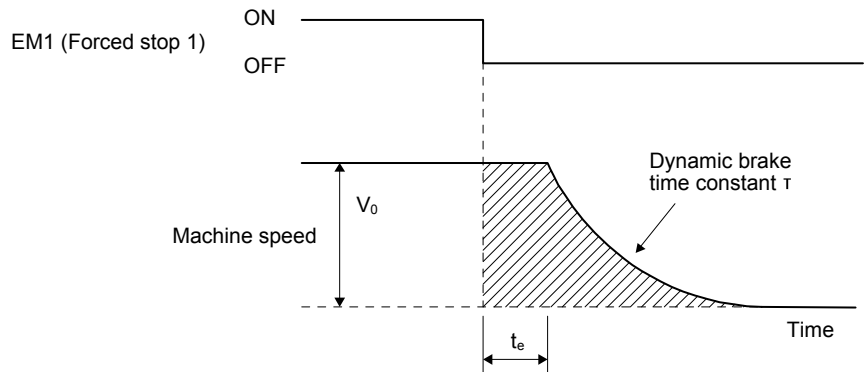

Fig. 10.3 Dynamic brake operation diagram
Fig. 10.3 shows the pattern in which the servo motor comes to a stop when the dynamic brake is operated. Use equation 10.2 to calculate an approximate coasting distance to a stop. The dynamic brake time constant τ varies with the servo motor and machine operation speeds. (Refer to (2) (a), (b) in this section.)